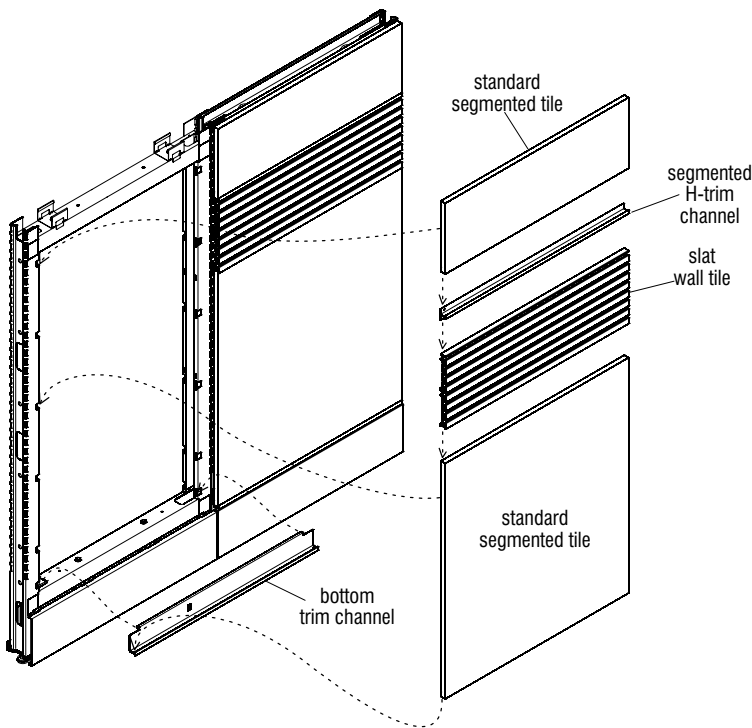

Figure 3 - Slat Wall Tile Installation
1. In a typical slat wall tile installation, first install a "bottom trim channel" into the panel frame "vertical posts". Position the bottom trim channel as illustrated, and hook the top lip into the bottom P-slot notches in the vertical posts. Push trim channel down into the slots to secure (Figure 3).
2. Position the standard tile such that the "open tabs" at the top of the vertical tile stiffeners are at the top of the panel (Figure 3).
3. Hold the tile up, then center and nest the bottom of the tile into the bottom trim channel. Push the top of the tile against the frame and lift such that the tabs of the stiffeners enter the P-slots. Push in and down gently to allow tile bottom to nest down into the bottom trim channel (Figure 3).
4. Next, position the slat wall tile as illustrated, with the integral H-channel facing down, and set onto the top of the lower segmented panel. Hold the slat wall tile from tipping away and set a segmented H-shape trim channel onto the top of the slat wall tile, such that the wide flange of the channel is behind the tile as illustrated. Ensure the tabs on the back side of the slat wall tile nest into the "P" slots on the vertical post. Finally, install a segmented tile above the H-shape trim as illustrated (Figure 3).